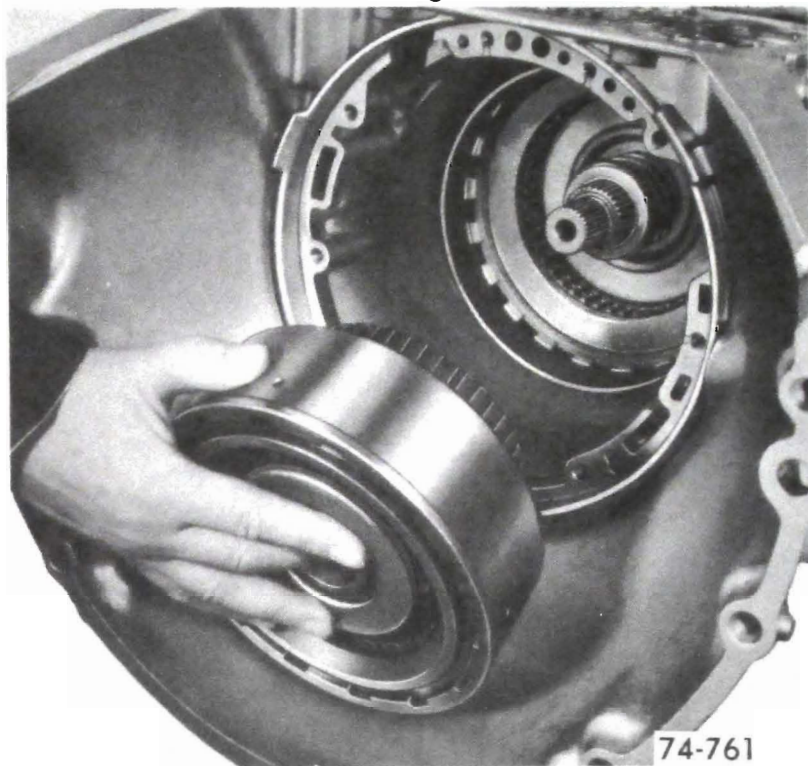

Figure 76-256
17. Install the direct clutch and intermediate sprag assembly. It will be necessary to twist the housing to allow the sprag outer race to index with the composition clutch plates. The housing hub will bottom on the sun gear shaft. See Figure 76-256.